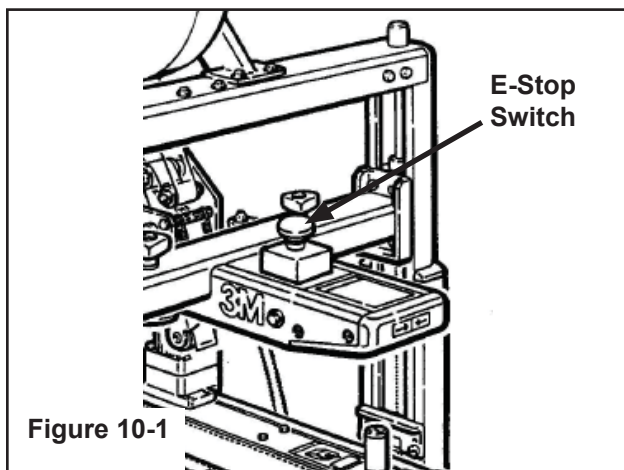

Figure 10-1
The machine electrical supply can be turned off by pressing the latching emergency stop switch. To restart machine, rotate the emergency stop switch clockwise to release the switch latch. Restart machine by Pushing the On/Off switch to the Off (O) position and then to the On (I) position (Figure 10-1).